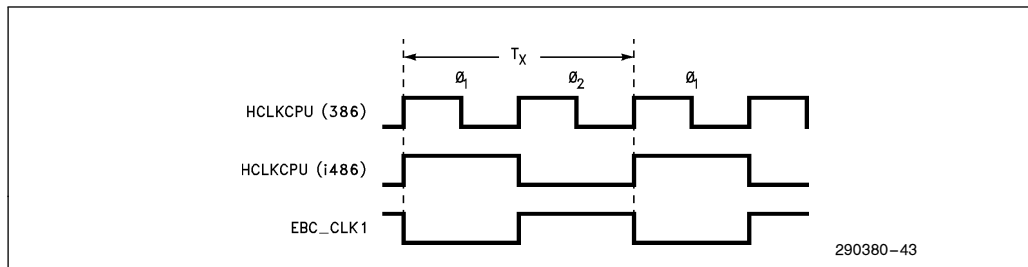

Figure 4-34. EBC\_CLK1 and HCLKCPU Relationship
The 82358DT generates BCLK, CLKKB, and the 82358DT internal CLK1 (EBC\_CLK1) from HCLKCPU input. EBC\_CLK1's relationship to HCLKCPU in an 80386 system and i486 system is shown in Figure 4-34.
- (2) The CLK1 signal represented in all six categories of the timings is the internal CLK1 of the 82358DT (EBC\_CLK1). The relationship of EBC\_CLK1 to HCLKCPU (386 and i486) is shown in Figure 4-34.
- (3) Some of the signals have been bused or combined together. There are three different methods for busing (type "a", type "b", and type "c").
- (4) AMODE=0 for all of the basic function waveforms.